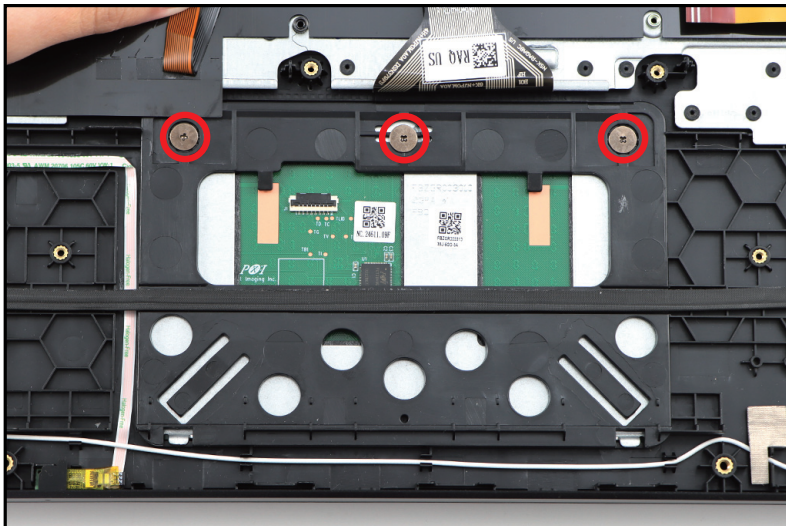

Figure 1-39. Touchpad Module Removal
3. Remove three (3) screws securing the touchpad module (Figure 1-39). Then release the keyboard FPC and keyboard backlight FPC.